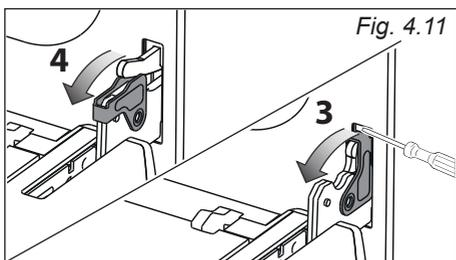

Fig. 4.12
- Hold the oven door by two hands and close it until the hinge levers hook to the oven door and the door no longer closes easily. (fig. 4.12)